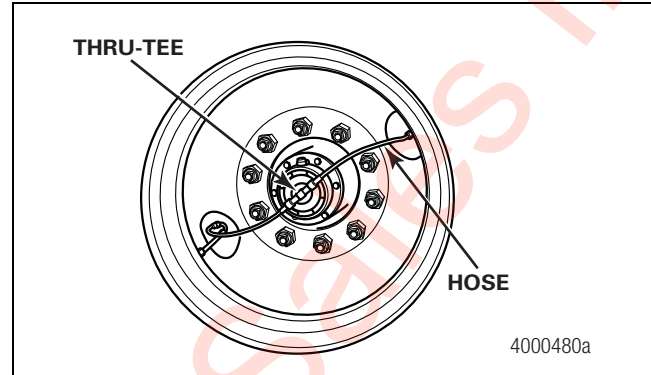

Figure 3.27
9. Check the wheel ends to verify that the tire inflation system hoses do not contact the wheels. Figure 3.27.
- **If a hose contacts a wheel:** Use a torque wrench set to 55 lb-in (6.2 N•m) to slightly rotate the thru-tee to reposition the hose away from the wheel. ①